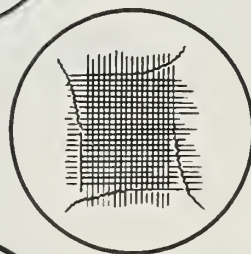

Fig. 2
3. Remove the three outside wires on all four sides of the patch. (Fig. 2)